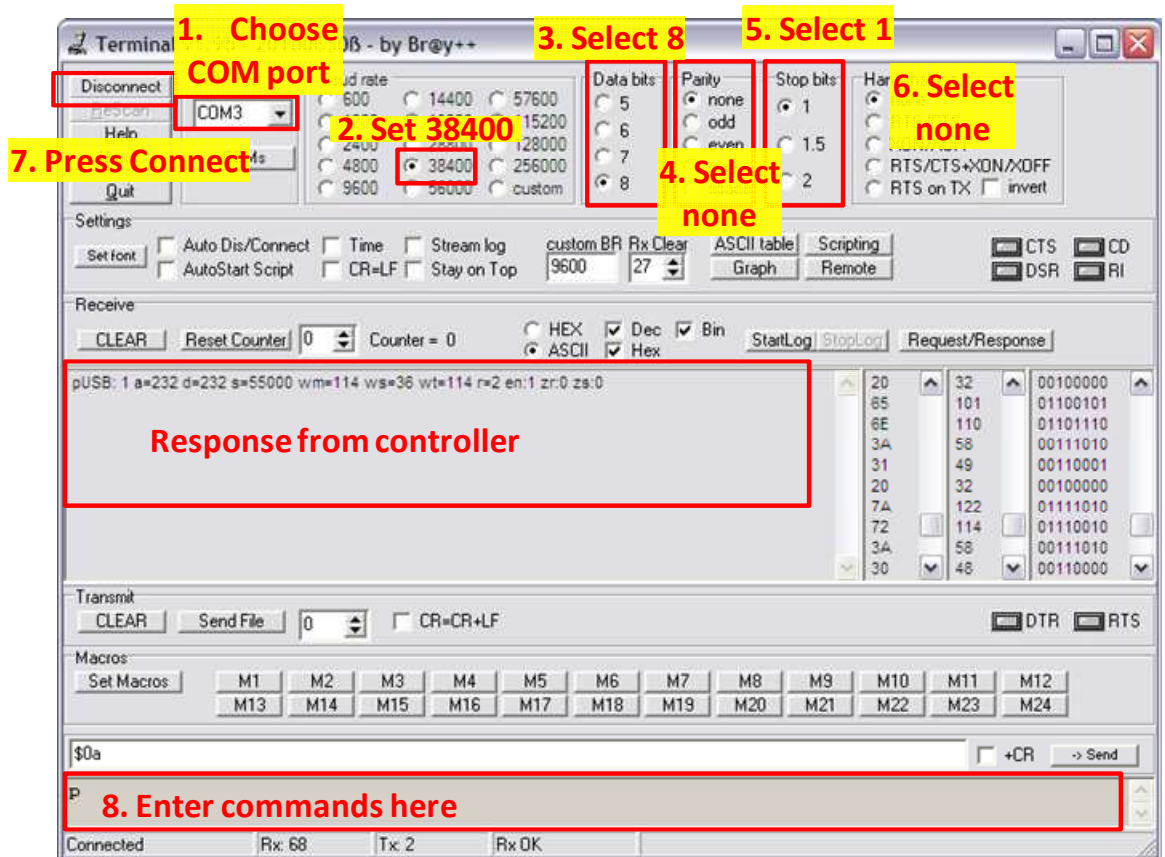

Figure 21. "Terminal.exe" control window.
Then click "Connect" Enter symbol "p" in lower (4) application pane and press "Enter". Response from driver should pop up in middle pane of "Terminal.exe". Please see Figure 21.